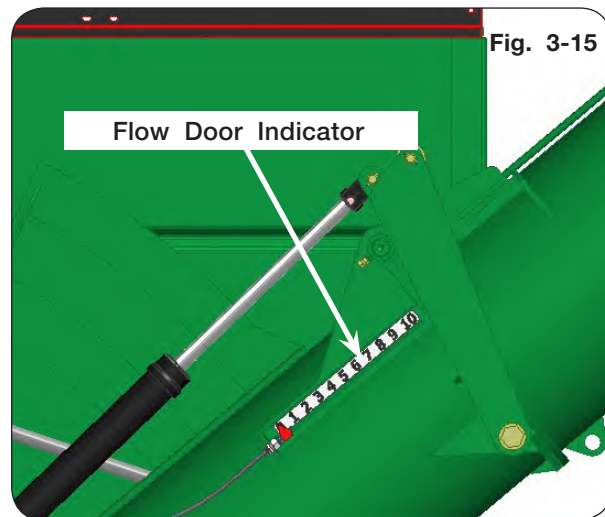

Fig. 3-15
- 4. Open flow control door to desired unloading rate. Numbers on the auger tube provide a point of reference for operator convenience. (FIG. 3-15)